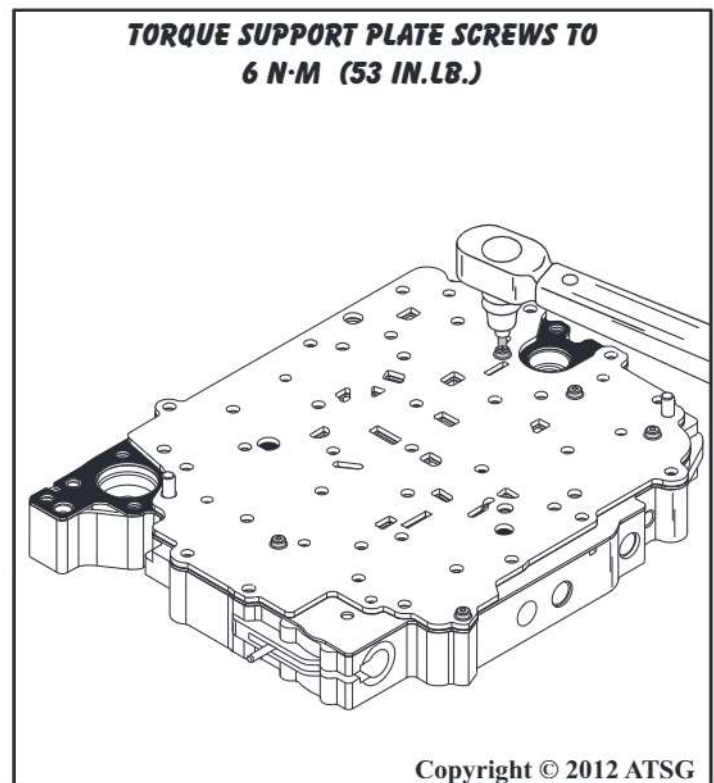

Figure 219
30. Torque the 5 support plate retaining screws to 6 N·m (53 in.lb.), as shown in Figure 219.